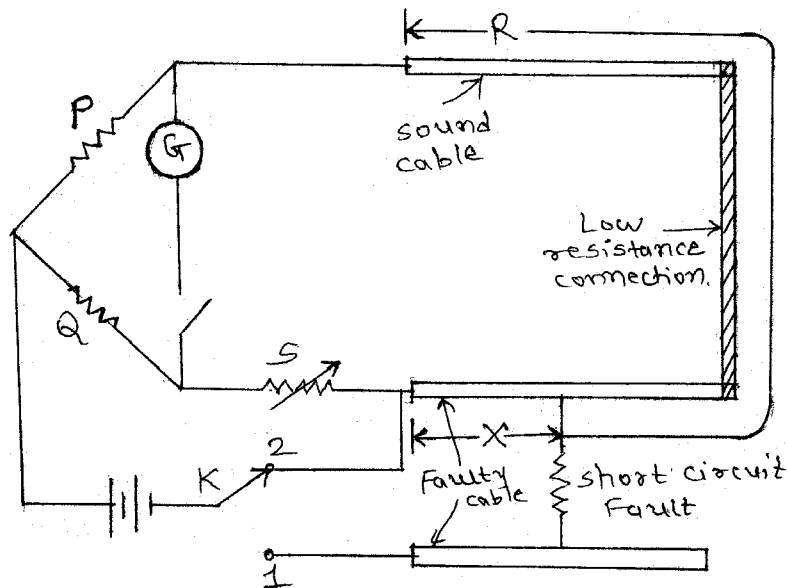

Fig. 1
- (ii) A short circuit fault is located by Varley loop test as shown in figure 1. The ratio arms are set at $P = 6 \Omega$ and $Q = 12 \Omega$ and the values of variable resistance S are 16Ω for position 2 of switch K and 7Ω for position 1. The sound and faulty cables are identical and have a resistance of $0.4 \Omega/\text{km}$. Determine the length of each cable and the distance of fault from test end. 4